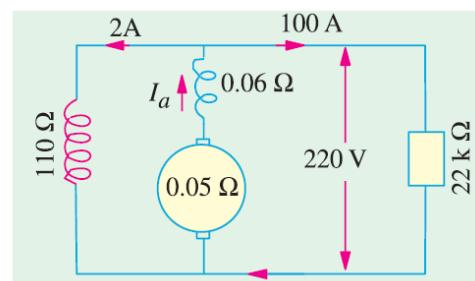

Fig. 26.64
**Solution.** The generator is shown in Fig. 26.64.